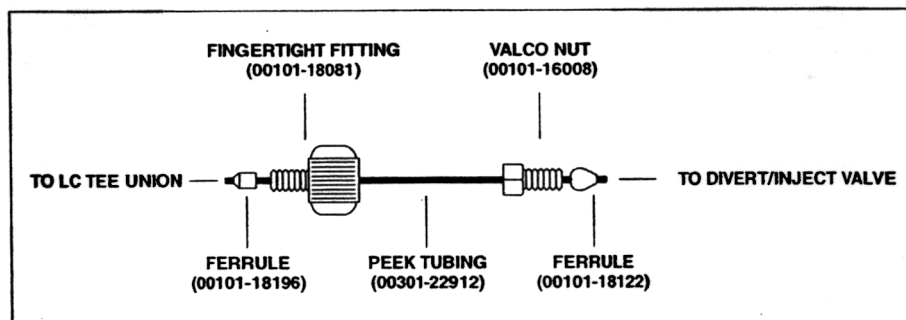

Figure 4-4. Plumbing connections for the divert/inject valve and LC Tee union
9. Connect an appropriate length of PEEK tubing (transfer line from the divert/inject valve) from the divert/inject valve to the free end of the (black) LC Tee union, as follows. See Figure 4-4.